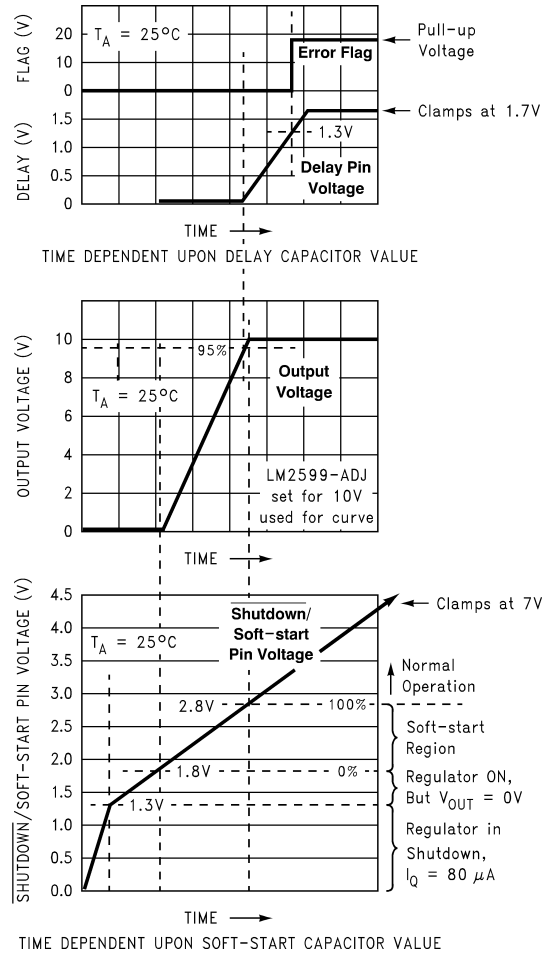
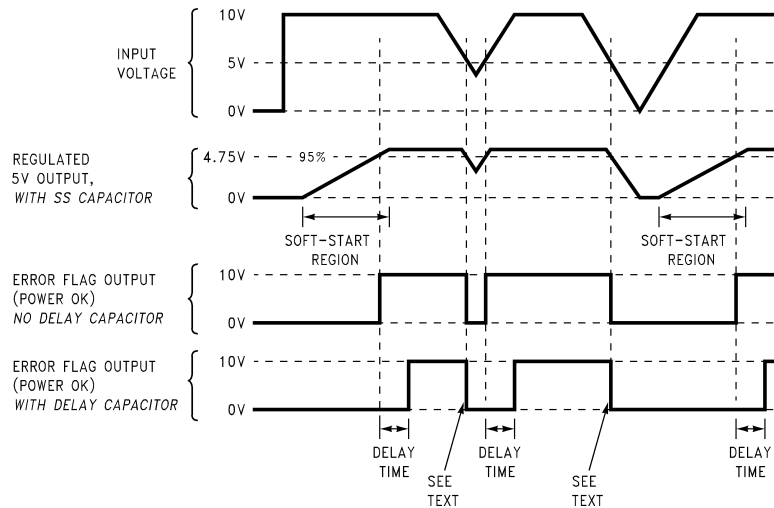

Figure 29. Soft-start, Delay, Error, Output
Figure 30. Timing Diagram for 5V Output
C_{SS} — A capacitor on this pin provides the regulator with a Soft-start feature (slow start-up). When the DC input voltage is first applied to the regulator, or when the Shutdown /Soft-start pin is allowed to go high, a constant current (approximately $5 \mu A$ begins charging this capacitor). As the capacitor voltage rises, the regulator goes through four operating regions (See the bottom curve in Figure 29).
3. **Soft-start Region.** When the \overline{SD} /SS pin voltage is between 1.8V and 2.8V (@ 25°C), the regulator is in a Soft-start condition. The switch (Pin 2) duty cycle initially starts out very low, with narrow pulses and gradually get wider as the capacitor \overline{SD} /SS pin ramps up towards 2.8V. As the duty cycle increases, the output voltage also increases at a controlled ramp up. See the center curve in Figure 29. The input supply current requirement also starts out at a low level for the narrow pulses and ramp up in a controlled manner. This is a very useful feature in some switcher topologies that require large startup currents (such as the inverting configuration) which can load down the input power supply.
Note: The lower curve shown in Figure 29 shows the Soft-start region from 0% to 100%. This is not the duty cycle percentage, but the output voltage percentage. Also, the Soft-start voltage range has a negative temperature coefficient associated with it. See the Soft-start curve in the Electrical Characteristics section.
C_{DELAY} — Provides delay for the error flag output. See the upper curve in Figure 29, and also refer to timing diagrams in Figure 30. A capacitor on this pin provides a time delay between the time the regulated output voltage (when it is increasing in value) reaches 95% of the nominal output voltage, and the time the error flag output goes high. A 3 μ A constant current from the delay pin charges the delay capacitor resulting in a voltage ramp. When this voltage reaches a threshold of approximately 1.3V, the open collector error flag output (or power OK) goes high. This signal can be used to indicate that the regulated output has reached the correct voltage and has stabilized.